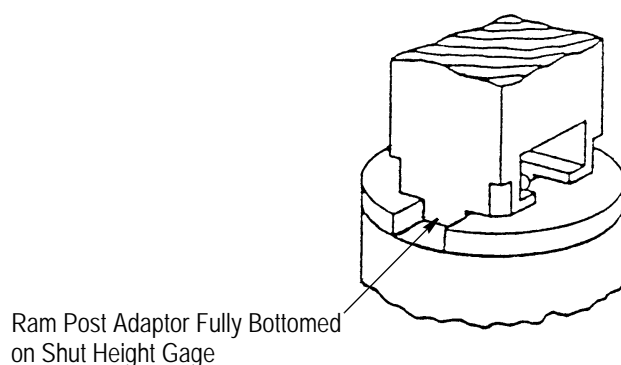

Figure 15
5. After shut height gage is properly aligned, continue to hand cycle terminating machine until the ram post adaptor is FULLY bottomed on the shut height gage. The lobes of the ram post adaptor must be fully seated in the cutout areas as shown in Figure 15.